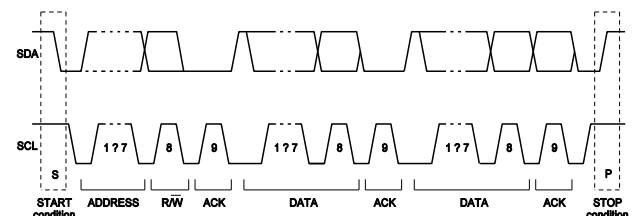

Figure 11: Complete Data Transfer
Data transfers follow the format shown in Figure 11. After the start condition (S), a slave address is sent. This address is seven bits long followed by an eighth bit, which is a data direction bit (r/w). A zero (0) indicates a transmission (write), and a one (1) indicates a request for data (read). A data transfer is always terminated by a stop condition (P) generated by the master. However, if a master still wishes to communicate on the bus, it can generate a repeated start condition (Sr) and address another slave without first generating a stop condition.